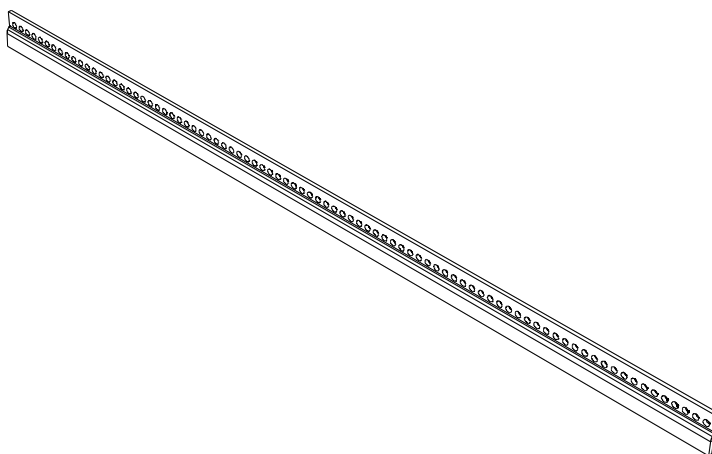

Figure 1.1: PCB Card Retainer Bar
2. Use a #1 Phillips-head screwdriver to remove the mounting screws/washers from the top and bottom PCB card retainer bars (see Figure 1.1) on the system. Keep the retainers and screws together in a safe place for replacement later.
6. Reinstall the top and bottom PCB card retainer bars (see Figure 1.1). Use a #1 Phillips-head screwdriver to replace the mounting screws/washers.